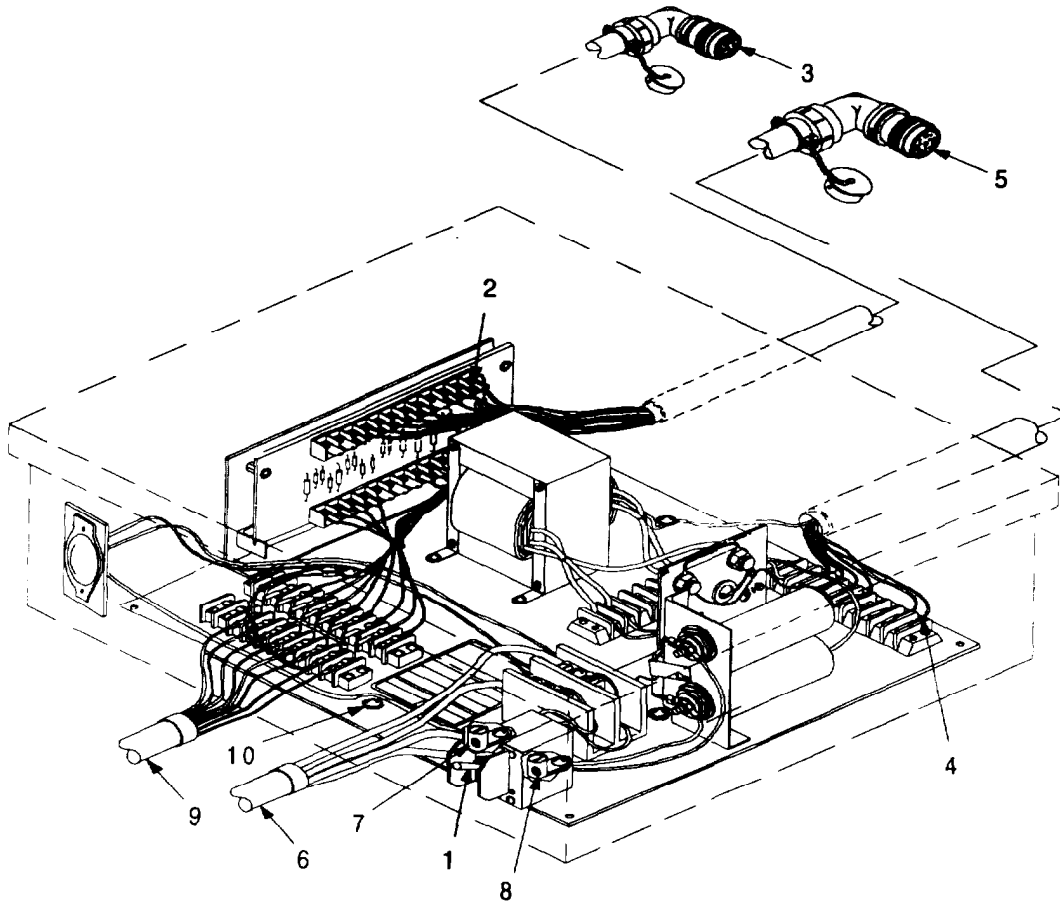

Figure 2-6. Preparation for Use of the ICB/Low Power.
d. **Assembly and Preparation of ICB/Low Power.** To assemble and prepare the ICB/Low Power for operation, refer to figure 2-6 and FO-3 and perform the following steps: